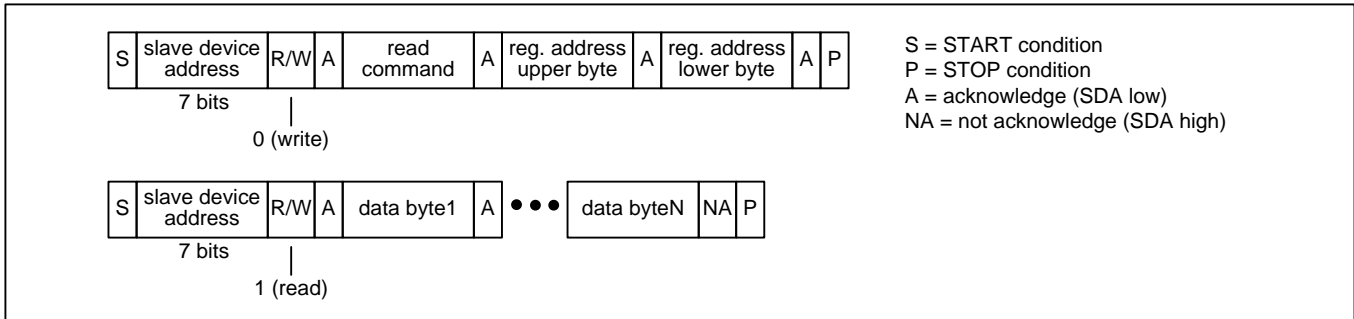
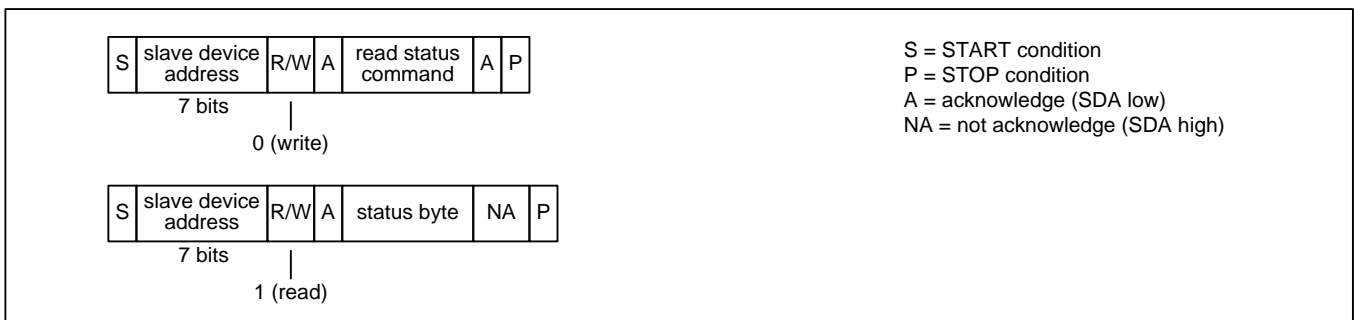

Figure 15 – I²C Read Transaction Functional Timing
Figure 18 – I²C EEPROM Read Status Transaction Functional Timing
Read Transactions. The device registers are accessible when $EESEL=0$. The internal EEPROM memory is accessible when $EESEL=1$. The bus master first does an I²C write to the device. In this transaction three bytes are written: the SPI Read command (see Table 4), the upper byte of the register address, and the lower byte of the register address. The bus master then does an I²C read. During each acknowledge (A) bit the device fetches data from the read address and then increments the read address. The device then transmits the data to the bus master during the next 8 SCL cycles. The bus master terminates the read with a not-acknowledge (NA) followed by a STOP condition (P). See Figure 15. Note: If the I²C write is separated from the I²C read by other I²C transactions then the device only outputs the data value from the first address and repeats that same data value after each acknowledge (A) generated by the bus master.
EEPROM Read Status. The bus master first does an I²C write to transmit the SPI Read Status command (see Table 4) to the device. The bus master then does an I²C read to get the status byte. In this byte, the least significant bit is set to 1 if the transfer is still in progress and 0 if the transfer has completed. See Figure 18.
Note: In Figure 15 through Figure 18, a STOP condition (P) immediately followed by a START condition (S) can be replaced by a repeated START condition (Sr) as described in the I²C specification.